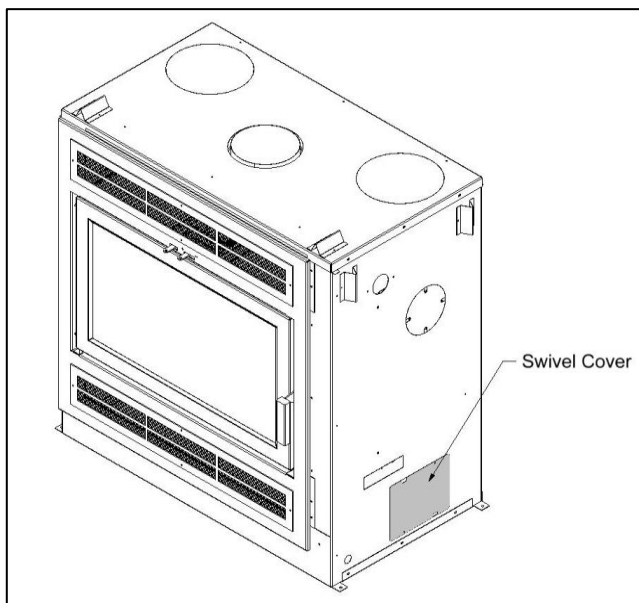

Figure 3-10: Intake Swivel Cover Closed
6. Secure the Intake Swivel Covers on the bottom sides of the unit to the closed position (Figure 3-10).